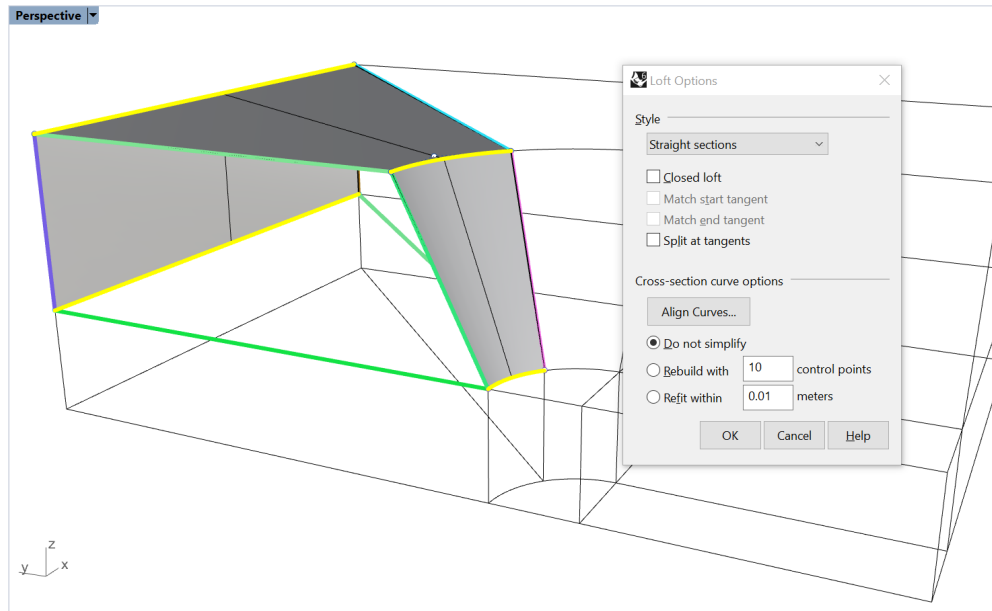

Figure 43: Building the surfaces for the first solid. Note that the grid has been hidden on this image.
14. Start creating a block at the top-left side of the model. Select the two arcs and two lines as shown in Figure 43 (selected lines are in yellow), type the **_Loft** command and use the settings shown in the right side of Figure 43. Click **OK** to build a lofted polysurface between the several curves. Alternatively, a single surface can be built between each pair of curves/lines.